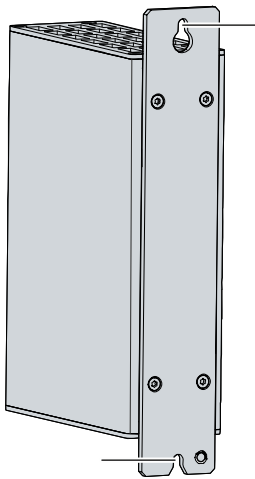

Fig. 14: C6905\_Dismantling the control cabinet
2. Lift the PC far enough so that the mounting screws slip into the keyholes (see fig. 14).